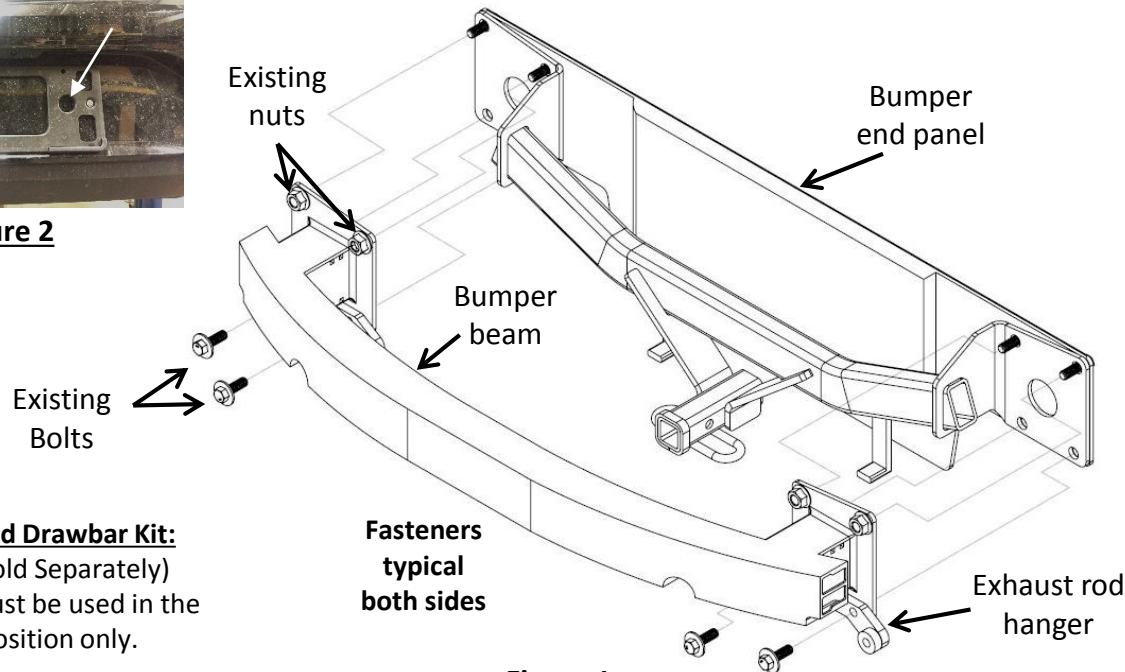

Figure 1
- Bumper beam removal** – use 15mm socket to remove (2) flange nuts and (2) bolts from bumper beam each side, see **Figure 1**. Gently remove bumper beam and exhaust rod hangers. Use a support to keep exhaust system from getting damaged.
- Hitch installation** – raise the hitch and align top 2 holes of the hitch to the studs on the bumper end panel. Raise the bumper beam and exhaust rod hangers to sandwich the hitch, see **Figure 1**. Reuse the flange nuts and bolts.